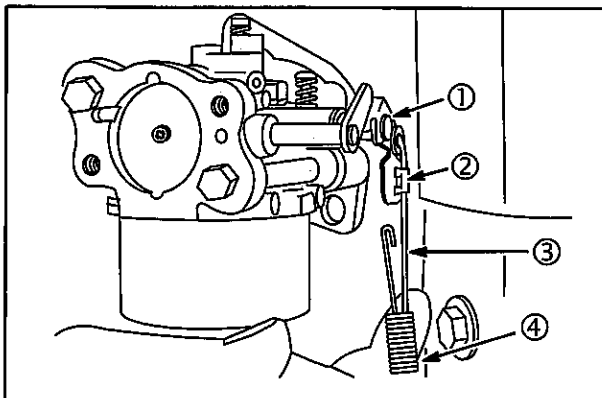
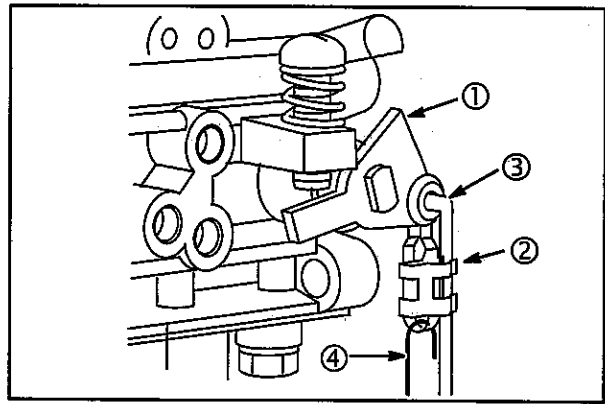

Fig. 25
Fig. 26
- Connect governor link (3) to throttle lever (1). Snap retainer (2) over link, **single barrel carburetor, Fig. 25, two barrel carburetor, Fig. 26.**
- Install governor link spring (4) in loop on retainer.